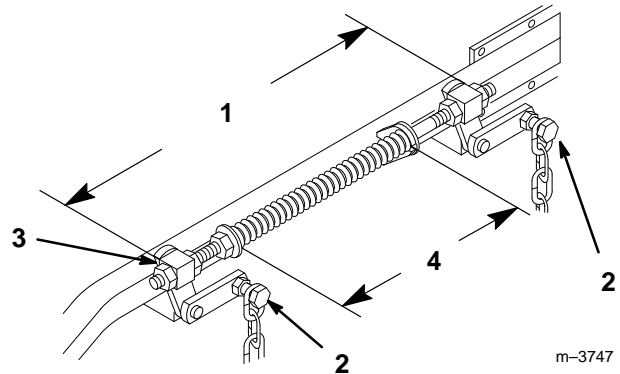

Figure 45
6. Loosen four (4) top chain bolts in slots. Check the length of the rod/swivel assemblies. Distance from outside of rear swivel to outside of front swivel should be 20-1/4" (514 mm) (Fig. 45). Make sure that all four swivels move freely in holes.
8. Lift up on four (4) top chain attachment bolts, in the slots, to take slack out of chains and tighten flange lock nuts. (Deck is still supported by two rear and one front blocks under mower)
2. Springs are compressed so the distance between the two large washers should be 10-1/4" (260 mm) (Fig. 45).
3. Adjust by turning nut in front of each spring (Fig. 45). (clockwise will shorten spring, counter-clockwise will lengthen spring)